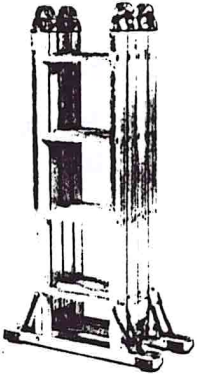

FIGURE 1.
- 1) Begin with ladder fully folded and standing as shown in figure 1.